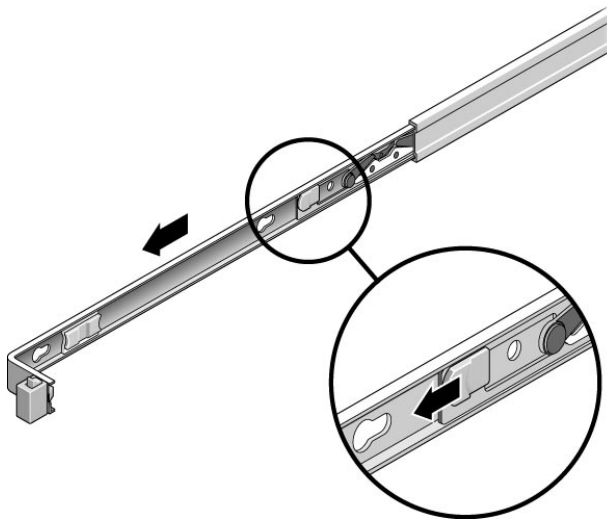

FIGURE 4-2 Location of the Mounting Bracket Release Buttons
6. Press the gray release tab on both mounting brackets to release the right and left mounting brackets, then pull the server chassis out of the rails (FIGURE 4-2).